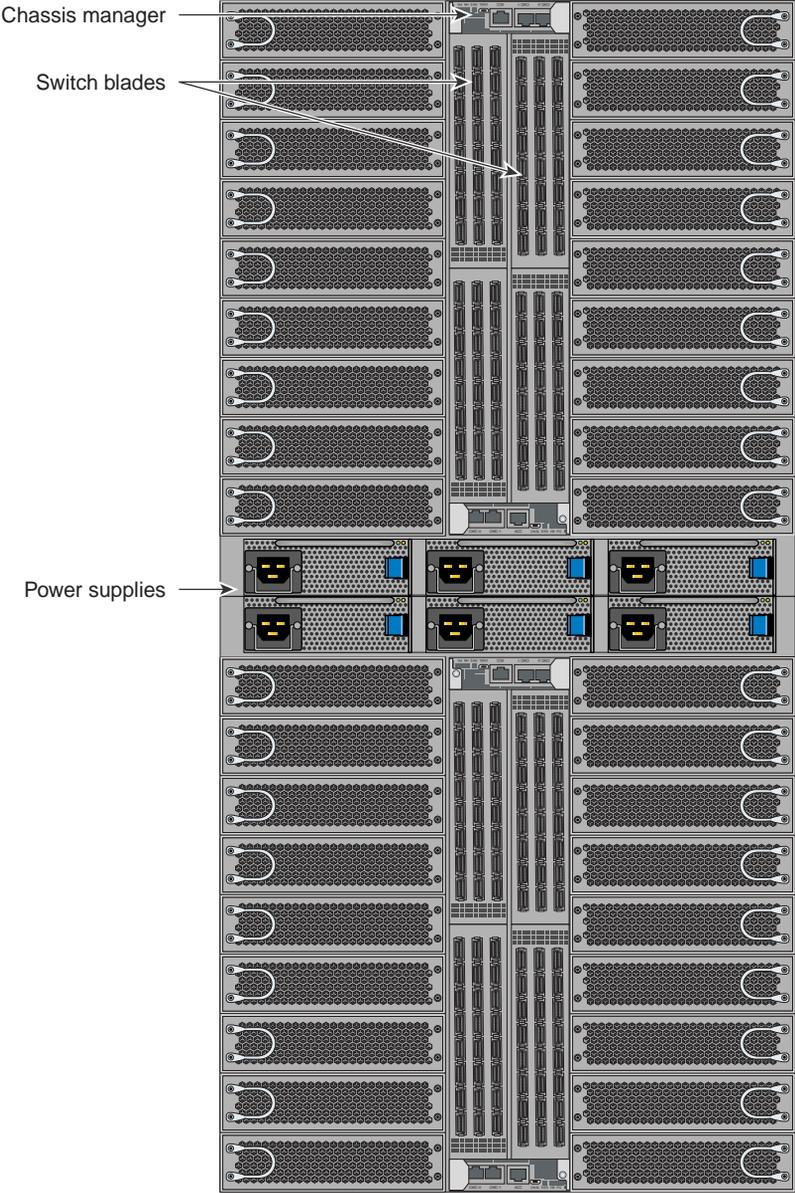

Figure 3-9 SGI ICE X Series Blade Enclosure Pair Components Example
- **Blade enclosure pair.** This sheetmetal enclosure contains the two enclosures holding up to 36 compute blades, up to four chassis manager boards, up to four InfiniBand fabric I/O blades and six front-access power supplies for the SGI ICE X series computers. The enclosure pair is 21U high. Figure 3-9 on page 41 shows the SGI ICE X series blade enclosure pair system front components.